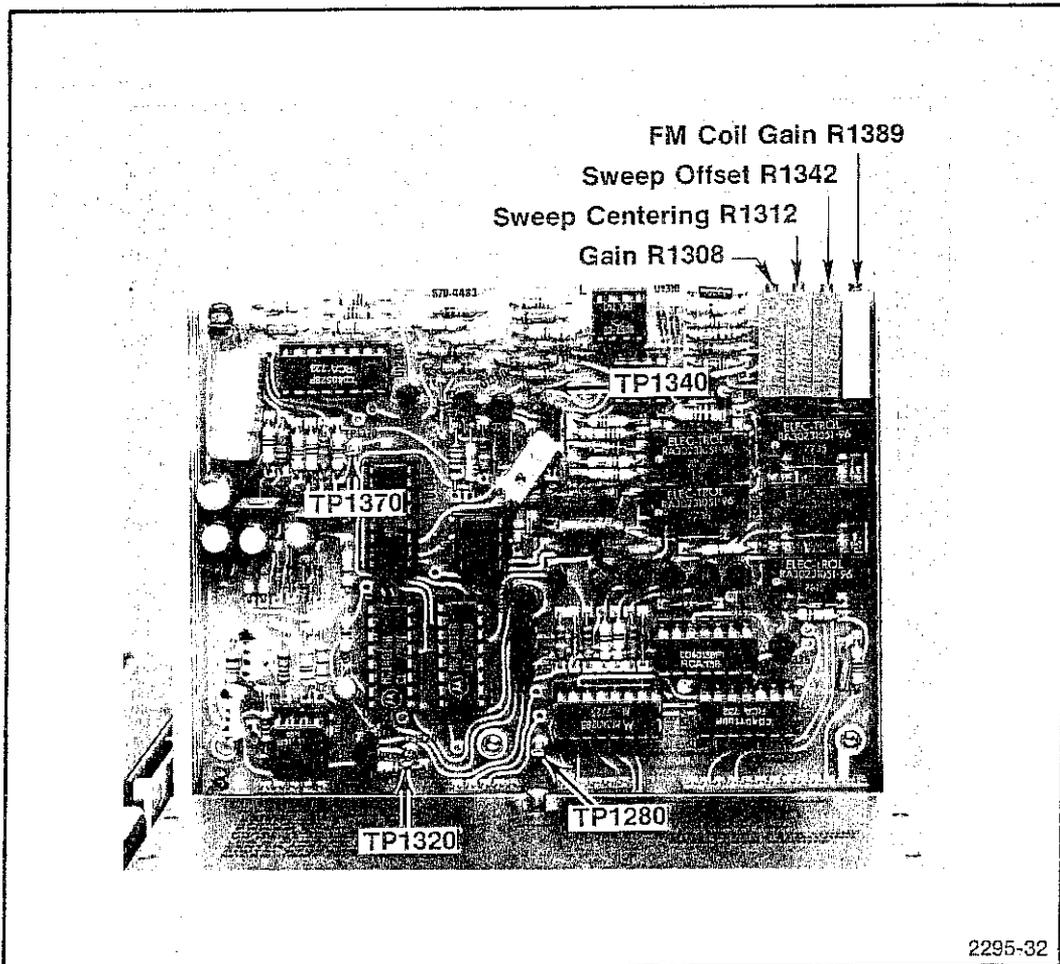

Fig. 4-24. Span Attenuator Test Points and Adjustments.
c. Connect the test oscilloscope probe to Zero Center Sweep, TP1340 (see Fig. 4-24). Set test oscilloscope Time/Div control to 10 ms.
e. Set the FREQ SPAN/DIV to 0 and connect the test oscilloscope probe to TP1370 (see Fig. 4-24).